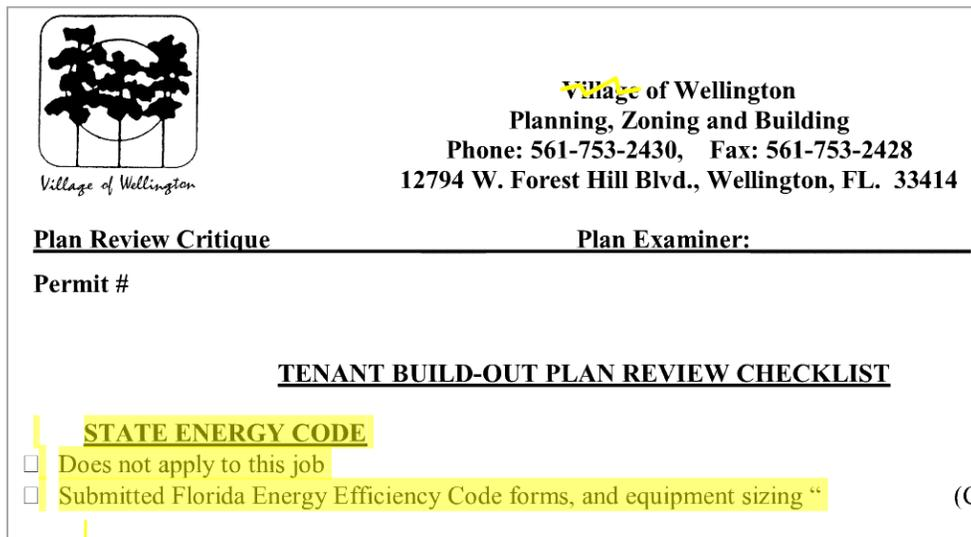

Figure 32.1 Strikeout Feature
- 4) Click, drag, and release the mouse to highlight the desired area to strikeout as seen in Figure 32.1.